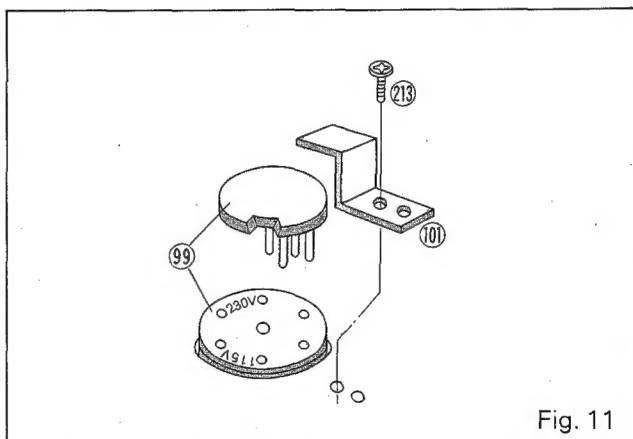

Fig. 11
- (1) Voltage changeover mechanism is placed at the rear of the cabinet. Remove the screw which fastens the protector and remove the protector (Fig. 11).
- (2) Withdraw the plug and reinsert it in such a way that the desired voltage marking is exposed in the cut of the plug.
- (3) Fasten the protector with the screw.